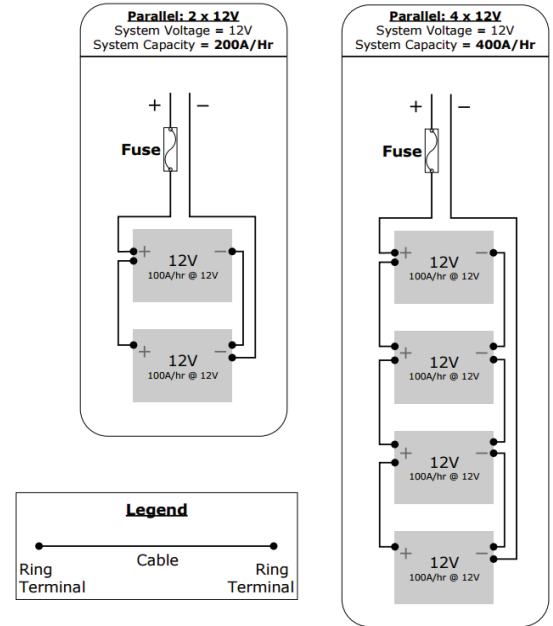

FIGURE 13
19. Complete the connection from the unit to the liftgate batteries by attaching the red wire to the positive terminal and the black wire to the negative terminal. If installing to more than one battery, connect batteries together as shown to charge and discharge batteries evenly. (Figure 13)